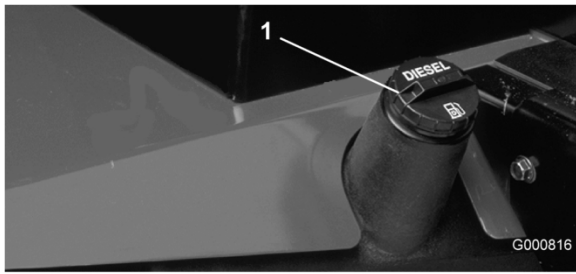

Figure 21
1. Remove fuel tank cap (Figure 21).